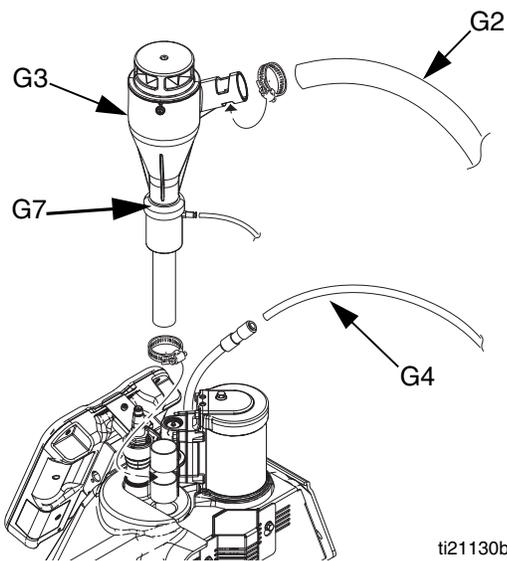

FIG. 7
- Install vacuum transfer inlet funnel (G3) onto system. See FIG. 7.
3. Insert 1.3 in. (33 mm) OD clear vacuum transfer hose (G2) into vacuum transfer funnel (G3) inlet and secure with supplied hose clamp. See FIG. 7.
4. Connect the long supplied 3/8 in. OD air line (G4) to the 3/8 in. push-to-connect fitting on the air line from the system. See FIG. 7.